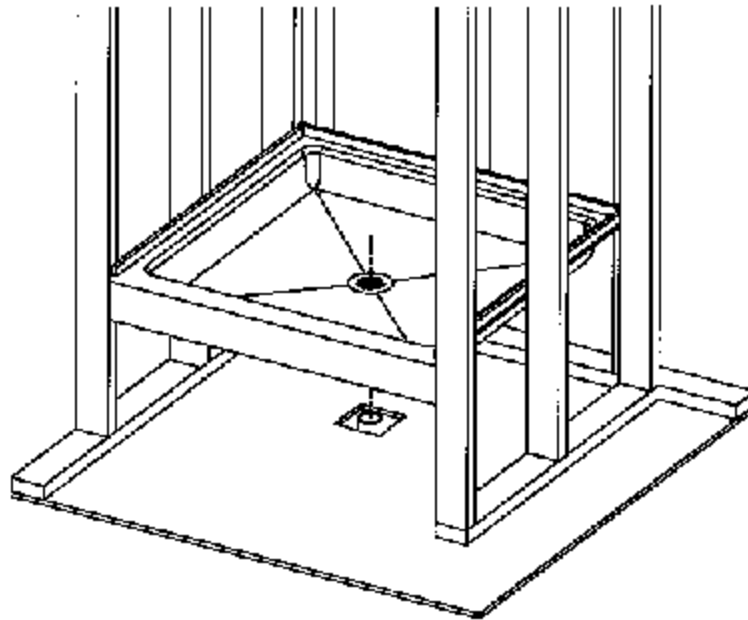

Figure 5
3. Lower the shower pan with drain assembly over the waste pipe and into the bed of sand (or Quickcrete) as shown in Figure 5. Check to ensure that the shower pan is level and install strainer. Check for proper drainage.